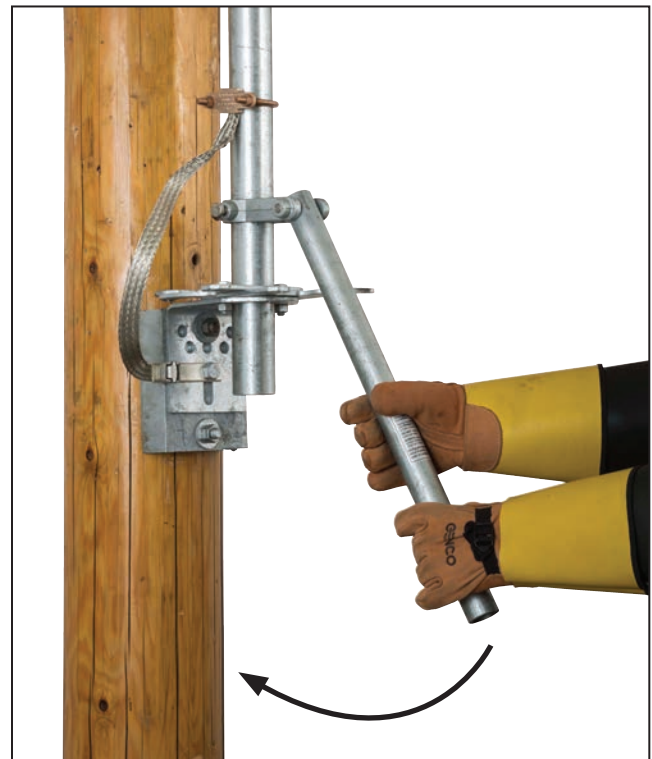

Figure 45. Swing the operating handle rapidly.
- (c) Swing the handle *rapidly* to the fully **Open** or fully **Closed** position. See Figure 45.